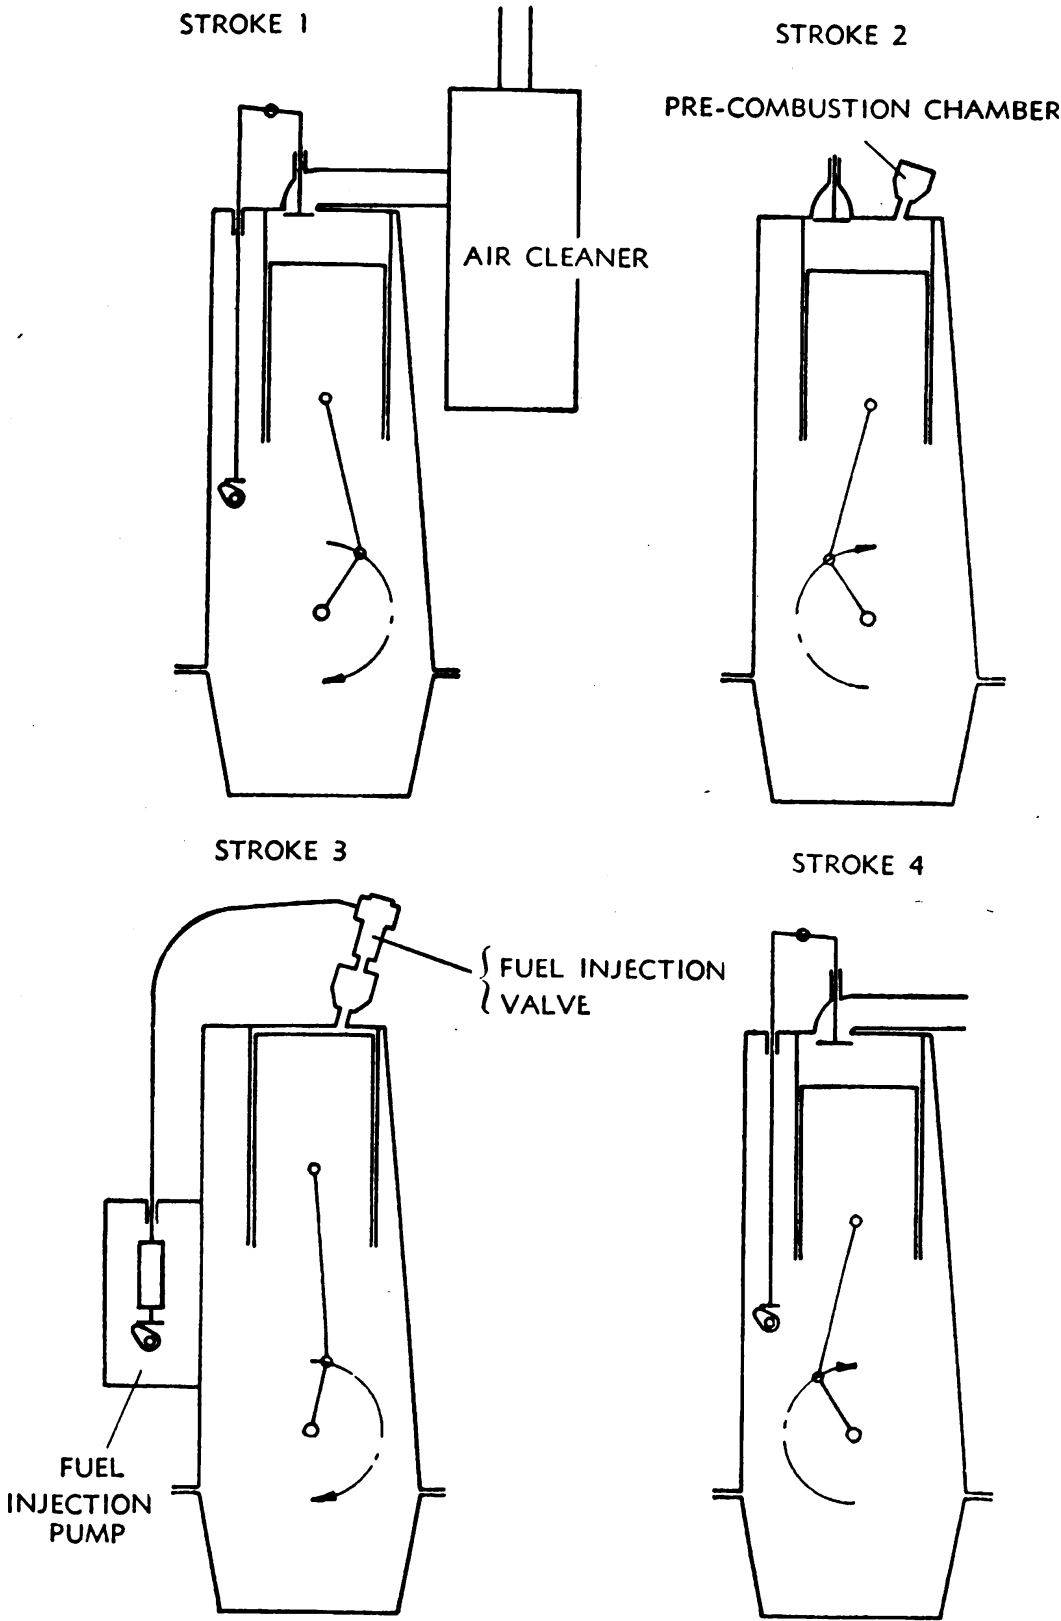

FIGURE 2.—Working process of Diesel engine.
a. Working process.—The Diesel engine operates on the four-stroke cycle (fig. 2) and burns Diesel fuels without the assistance of spark plugs or externally heated surfaces.